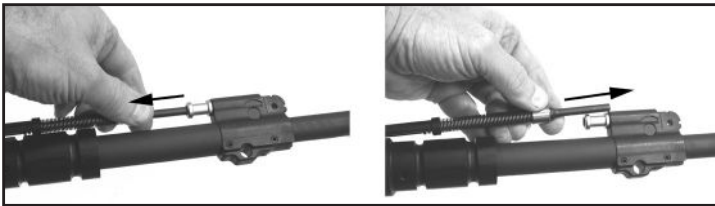

Fig. 48– Removing Piston Rod
- c. Grasp the rear of the gas piston while pushing back on the piston rod. Disengage the piston rod from the piston and slide out the piston rod from the upper receiver (Fig. 48).